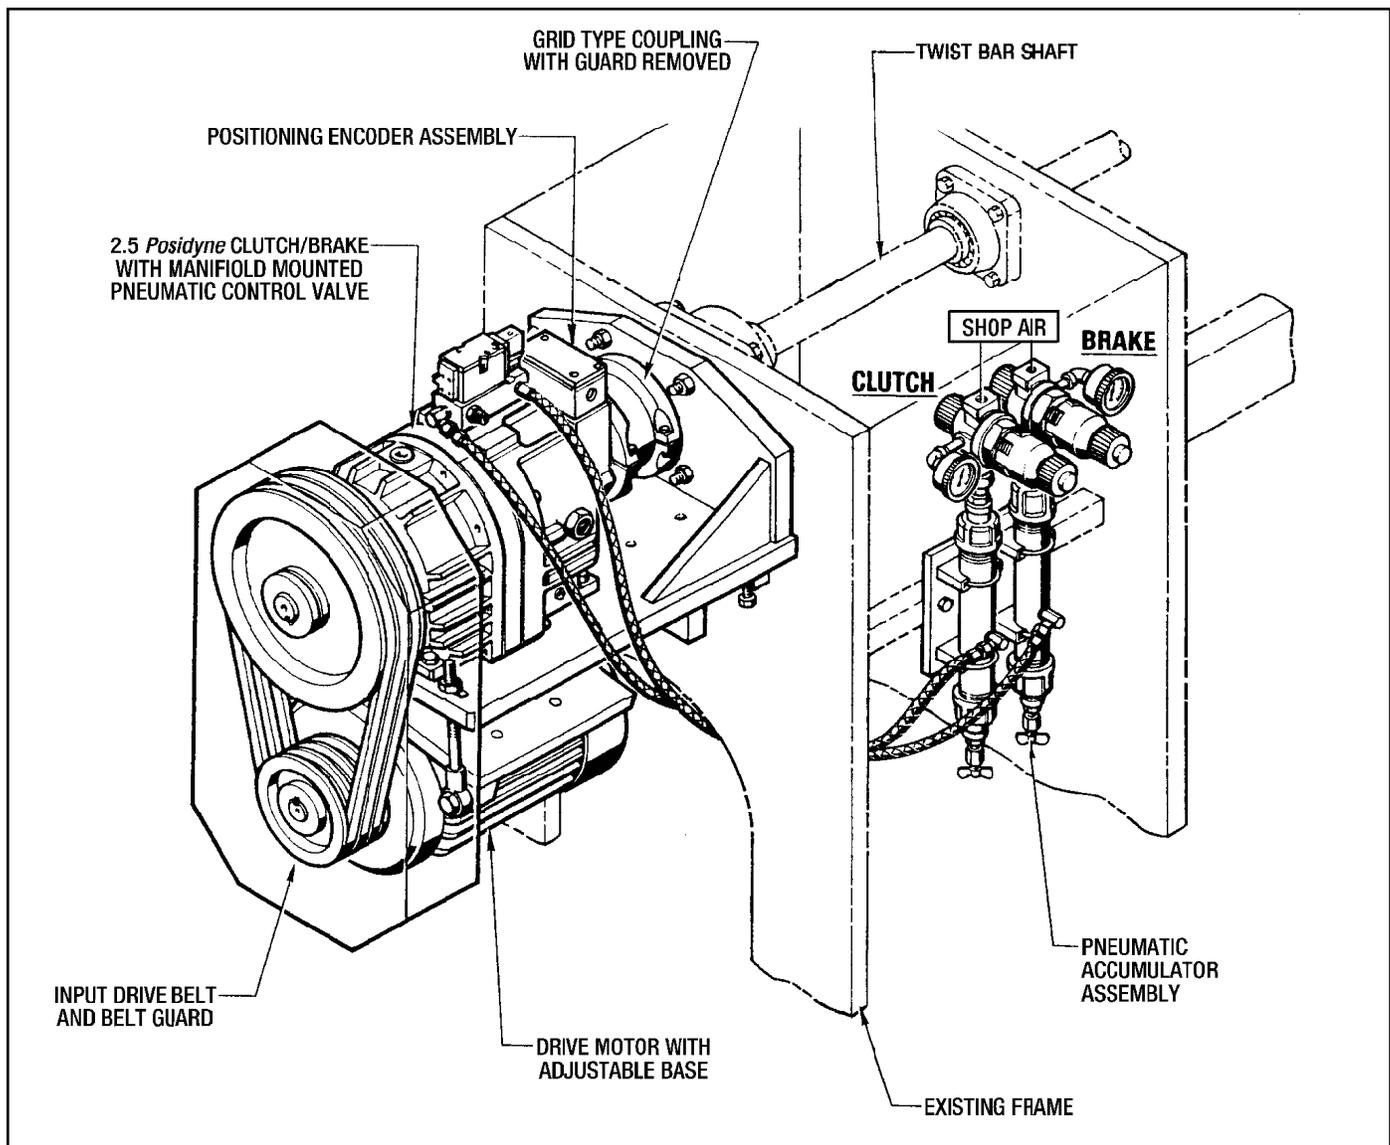

Figure 1.2 - Air Actuated *PosiWeave* Drive Package
(See Figure 1.2)
2. Connect shop air to each of the PS regulators on the accumulators as shown in Figure 1.2.